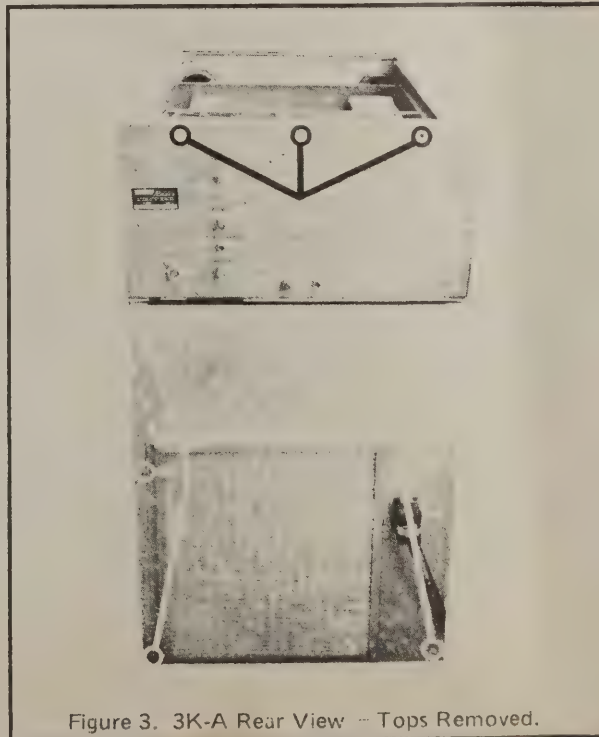

Figure 3. 3K-A Rear View - Tops Removed.
- 4 Remove the rear panel of the power supply by unscrewing the six screws holding it in place (see Figure 3).